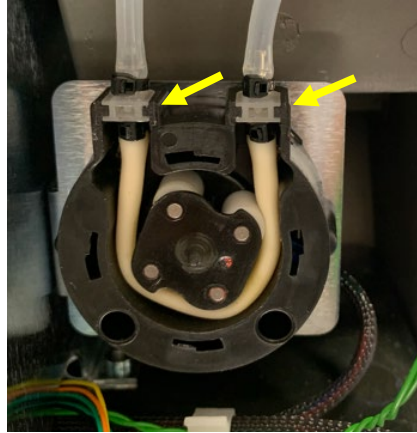

Figure 20
- 5.1. Starting on the left side of the wash pump, insert the grooves of the collar on the new tubing into the slot on the wash pump. Slowly work the tubing into the wash pump in a counterclockwise direction. Spin rotor by hand if needed to help install tubing. Once the tubing is in place, insert the grooves of the collar on the new tubing into the slot on the right side of the wash pump. Figure 20 shows correct placement for tubing.